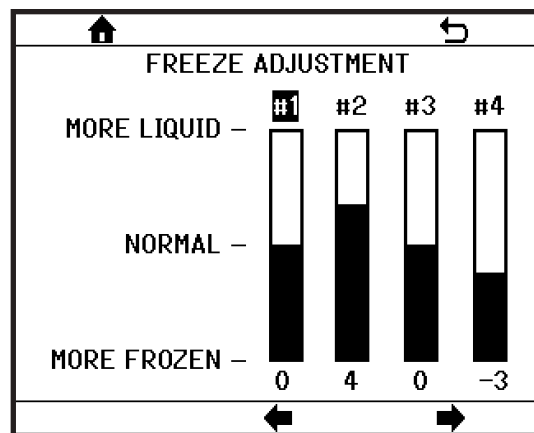

Figure 7.21
- **FREEZE ADJUSTMENT:** Used to adjust how frozen the drink is (Figure 7.21).
FREEZE ADJUSTMENT (Figure 7.21) - The adjustment allows the service agent to make the drink more liquid or more frozen.